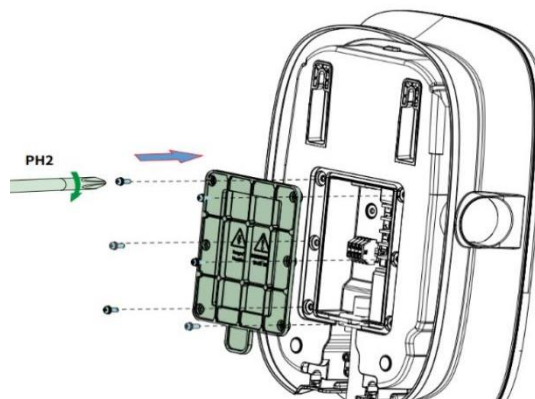

Figure. 15 Close the rear cover
⑨ Cover the rear cover, and screw in 6 M4*12 Phillip's head screws using PH2 screwdriver with torque of 1.2-1.4Nm, as shown in Figure. 15.